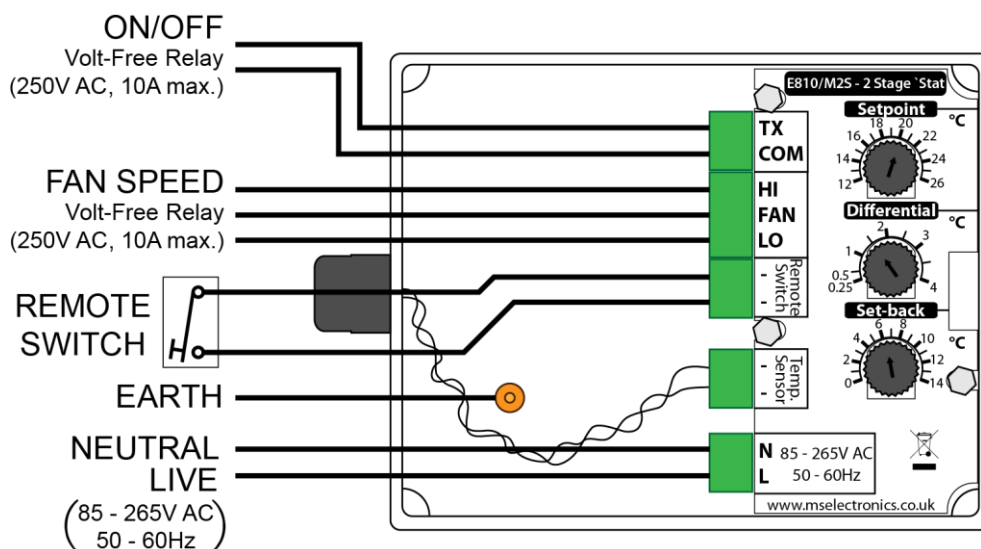

Figure 2: Typical Wiring Diagram
4. Using Figures 2 to 5 as a guide, connect the wiring in a suitably appropriate form with the convenient pluggable terminal blocks provided. Contact Technical Support with the heater make and model number for specific help if a suitable wiring method is unclear.